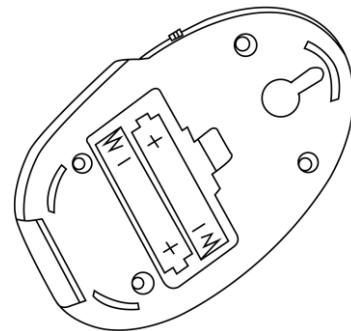

Figure 1 – Howler battery compartment
1. Open the battery compartment cover and insert two AAA size batteries (included). Make sure the batteries are installed correctly (see figure 1).